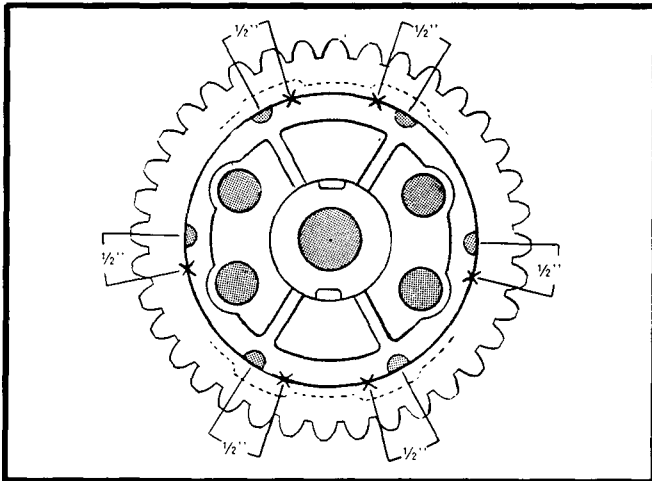

Figure 9.
5. Center punch six marks on the line that divides the worm gear from the carrier housing. See Figure 9. for location of center punch marks.